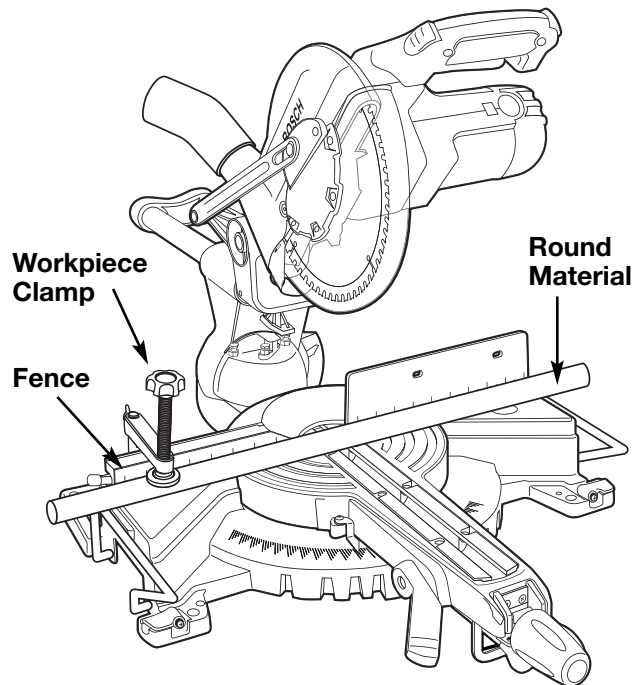

Figure 36. Round Material
**⚠ WARNING** For round material such as dowel rods or tubing, always use a clamp or a fixture designed to clamp the workpiece firmly against the fence and table. Rods have a tendency to roll while being cut, causing the blade to “bite” and pull the work with your hand into the blade (Figure 36).